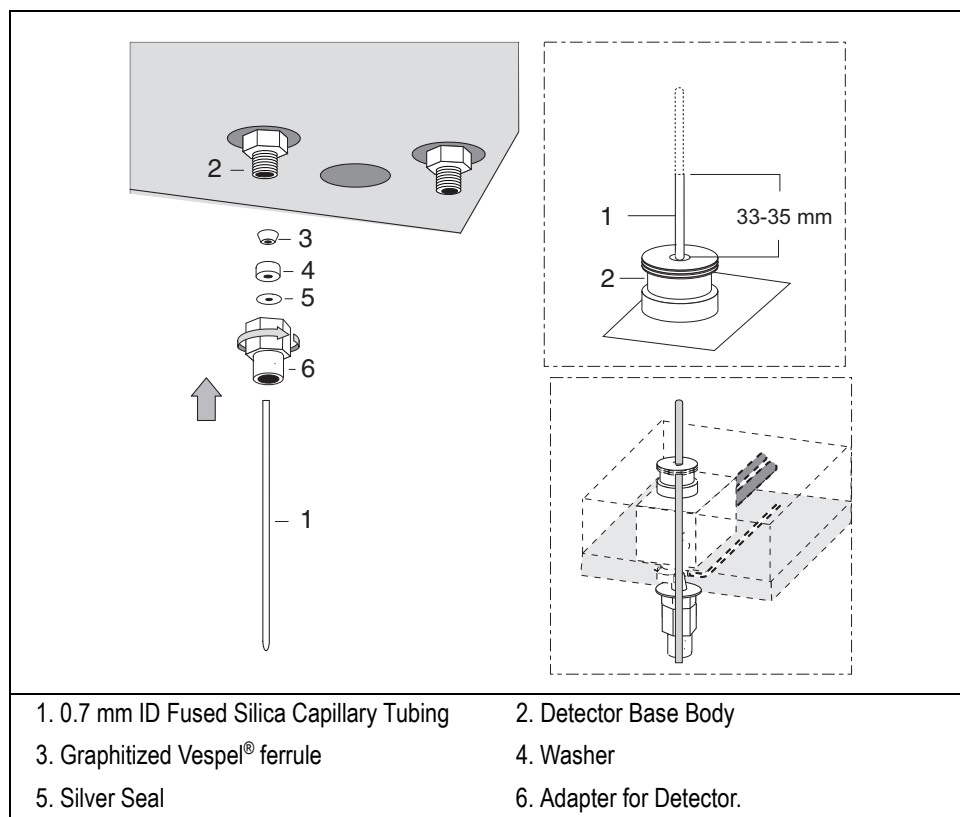

Figure 15-14. Connection to the PDD Detector (1)
Insert the appropriate fittings on the capillary tubing in the following order as shown in Figure 15-14.
4. Push up the capillary tubing until the upper end protrudes from the detector base body and the lower end is at the same level of the base of the adapter retaining nut as shown in Figure 15-14.
5. Finger-tighten the adapter retaining nut until it starts to grip the detector base. The capillary tubing must protrude from the detector base body from 33-35 mm, then cut the exceeding portion as shown in Figure 15-14.